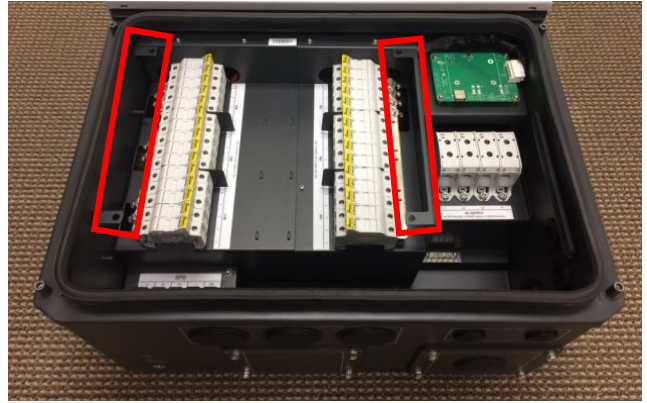

Figure 9-2 Remove Plastic Touchsafe Finger Guards
3. Remove the plastic touch-safe finger guards (Figure 9-2).